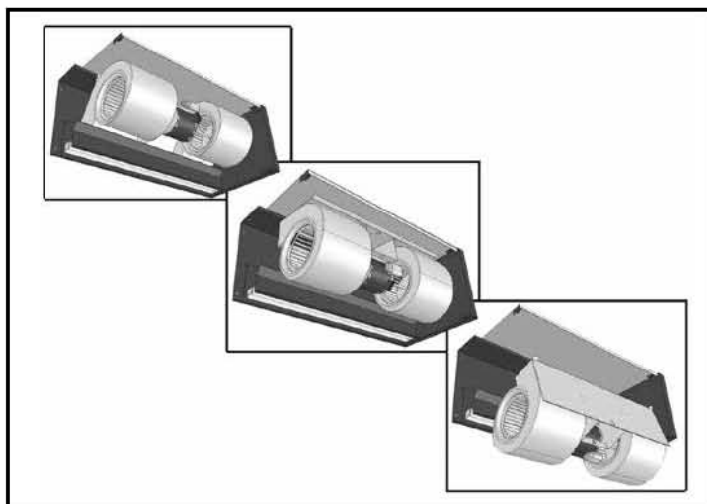

FIGURE 13- Removing the Blower Module
6. Gripping the motor and motor mount, slowly rotate the top of the module forward and then down and out of the unit. **See Figure 13.**
8. Next, remove the blower housings by removing the (4) self-drilling screws from the back of the fan housing. The fan housing and fan impellers may now be slid off of the motor shaft.